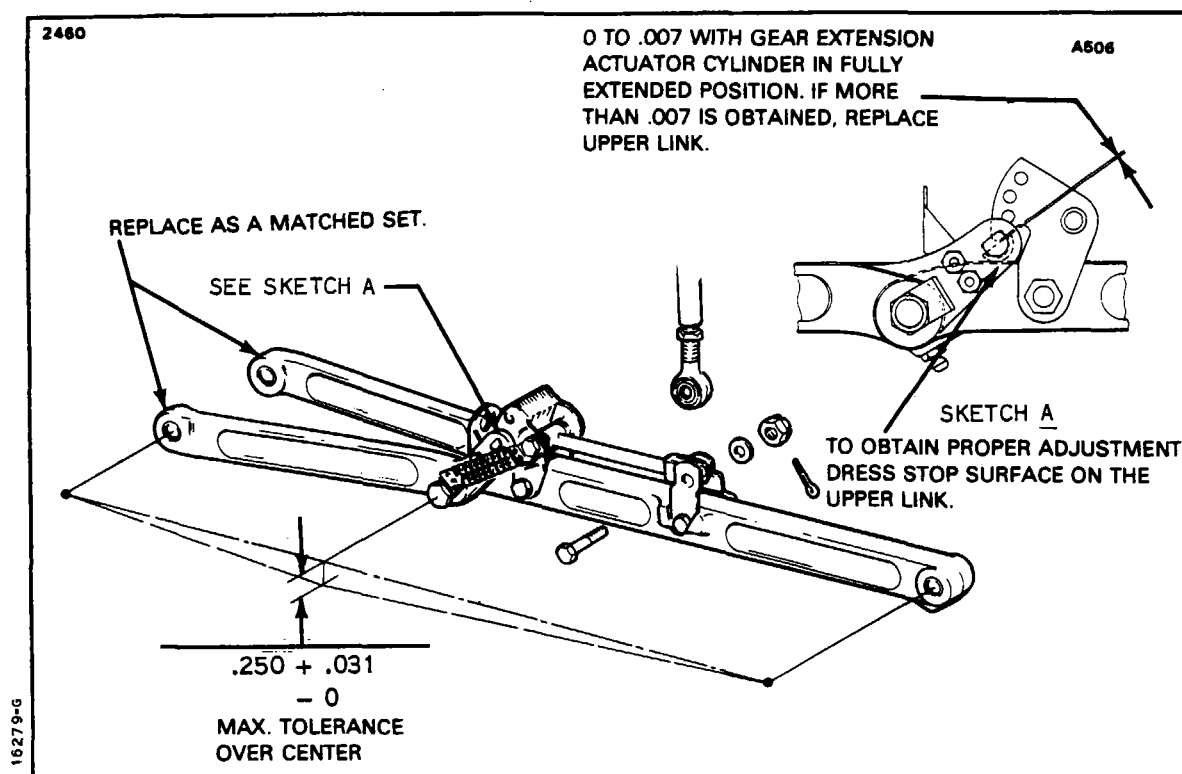

Figure 7-3. Adjustment of Nose Gear Drag Link and Latch Assembly
c. Attach the upper and lower drag links and check that there is 0 to .007 of an inch clearance between the latch hook and pin. Dress upper and lower link stop surfaces to obtain minimum clearance. Also check that when the stop surfaces touch, linkage is $.250 + .031 - 0$ inch through center. (Refer to Figure 7-3.) Should this distance exceed the required through center travel, and bolt and bushings are tight, replace one or all drag links.
g. Ascertain there is 0 to .007 of an inch clearance between the latch and hook. (Refer to Figure 7-3.)